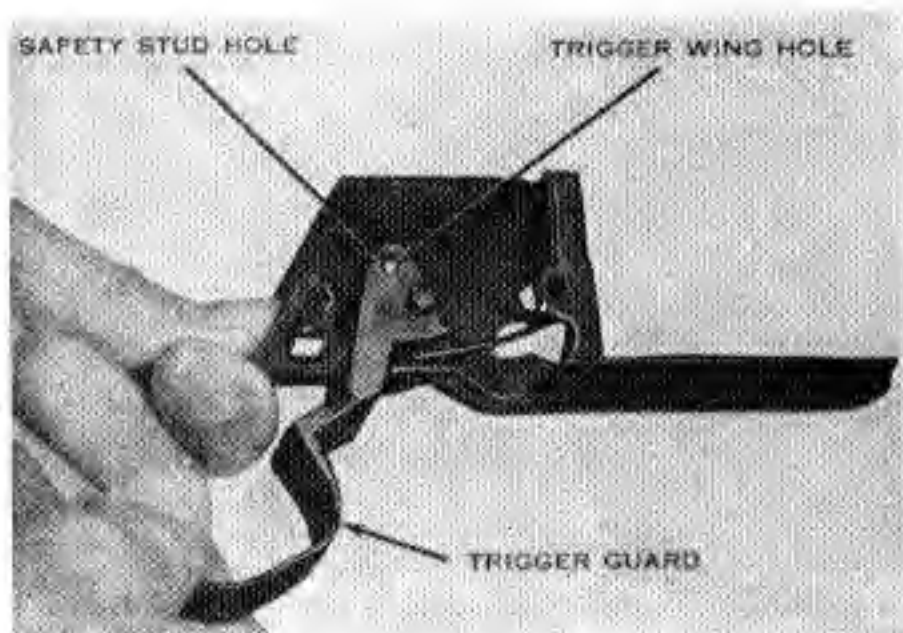

Fig. 76. Removing the trigger guard.
(5) Holding the trigger guard and trigger group housing as shown in Fig. 76, slide the guard to the rear until its wings are aligned with the
(2) To replace the trigger guard, hold the trigger housing as shown in Fig. 76. Place the wings of the trigger guard astride the base of the trigger housing so that the hammer stop, on the inside of the right wing, clears the base. Turn the trigger guard down and to the left until the holes in the wings are under the safety stud hole. Slide the trigger guard forward until the holes in the wings are aligned with the hammer pin hole.